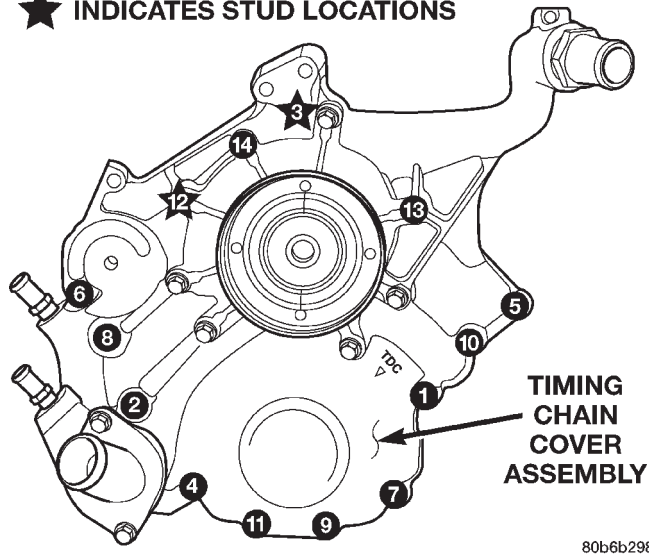

Fig. 60 Timing Chain Cover Fasteners
- (7) Remove cover and gasket (Fig. 60).
- (1) Clean timing chain cover and block surface. Inspect cover gasket and replace as necessary.
- (2) Install cover and gasket. Tighten fasteners in sequence as shown in (Fig. 60) to 54 N·m (40 ft. lbs.).
- (3) Install crankshaft damper. Refer to procedure in this section.
- (4) Install accessory drive belt tensioner assembly. Tighten fastener to 54 N·m (40 ft. lbs.).